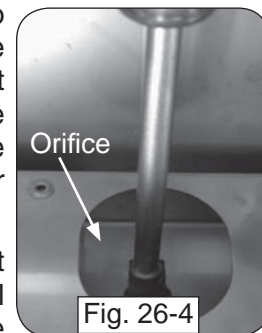

Fig. 26-4
3. Use a 3/8" hex nut driver to remove the exposed orifice (Fig. 26-4) and replace it with the correct orifice for the new gas. (See Table 1 at the beginning of this document for orifice sizes.)